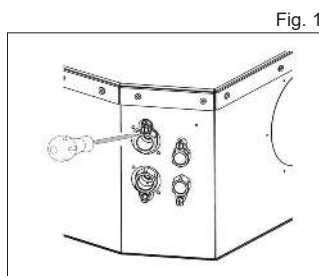

Fig. 1
- Operate (using a screwdriver) on the battery drain (Fig.1);